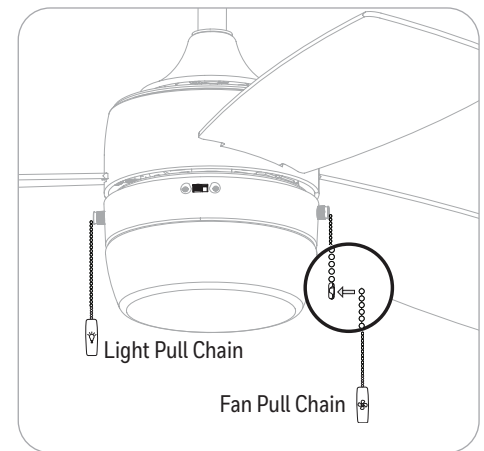

Figure 5.9
9. Attach pull chain extensions to the appropriate pull chains. **Note:** When facing the reverse switch, the light pull chain is on the left and the fan pull chain is on the right (Figure 5.9).